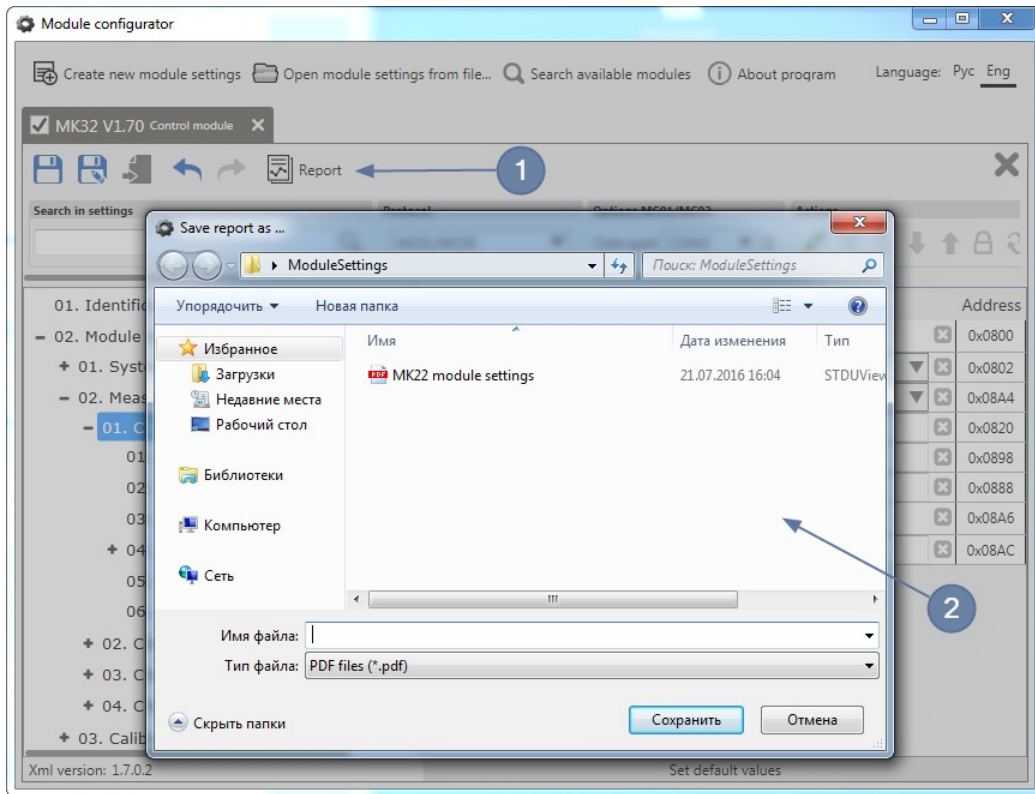

Figure 25 - Selecting report saving place
- 1) press **Report** button (Figure 25, item 1);
- 2) in opened dialog window select report saving place (Figure 25, item 2);